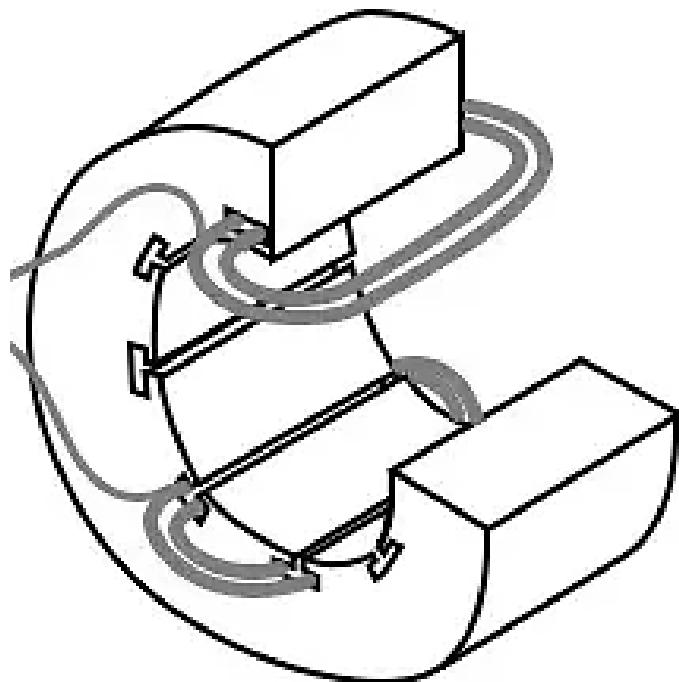

Figure 2
- iv. Lay the new coils into the stator slots as shown in Figure 2.